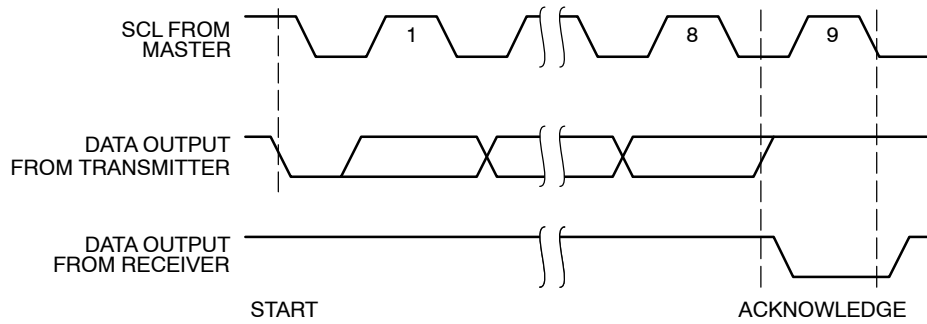
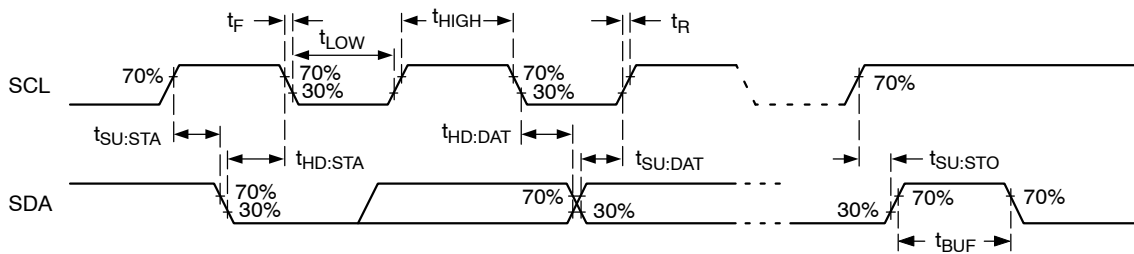

Figure 22. Acknowledge Timing
Figure 23. Bus Timing
- Timing reference points are set at 30%, respectively 70% of V_{CC} , as illustrated in Figure 23. Bus loading must be such as to allow meeting the V_{IL} , V_{OL} as well as the various timing limits.
A matching Slave address is acknowledged (ACK) by the Slave by pulling down the SDA line during the 9th clock cycle (Figure 22). After that, the Slave will acknowledge all data bytes sent to the bus by the Master. When the Slave is the transmitter, the Master will in turn acknowledge data bytes in the 9th clock cycle. The Slave will stop transmitting after the Master does not respond with acknowledge (NoACK) and then issues a STOP. Bus timing is illustrated in Figure 23.